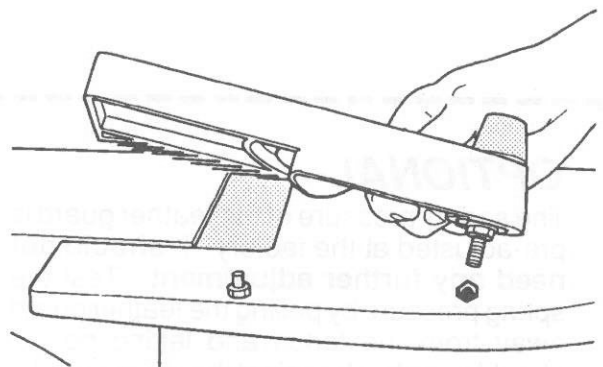

Fig. 12
21. Insert the feather guard's stud (11) into the table's hex hole. See Fig. 12.